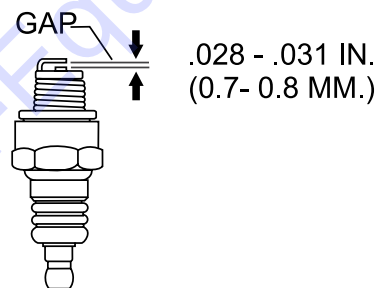

Figure 39. Spark Plug Gap
5. Measure the spark plug electrode gap (Figure 39) with a wire-type feeler gauge. If needed, adjust the gap to 0.7 - 0.8 mm (0.028 - 0.031 in), by carefully bending the side electrode.